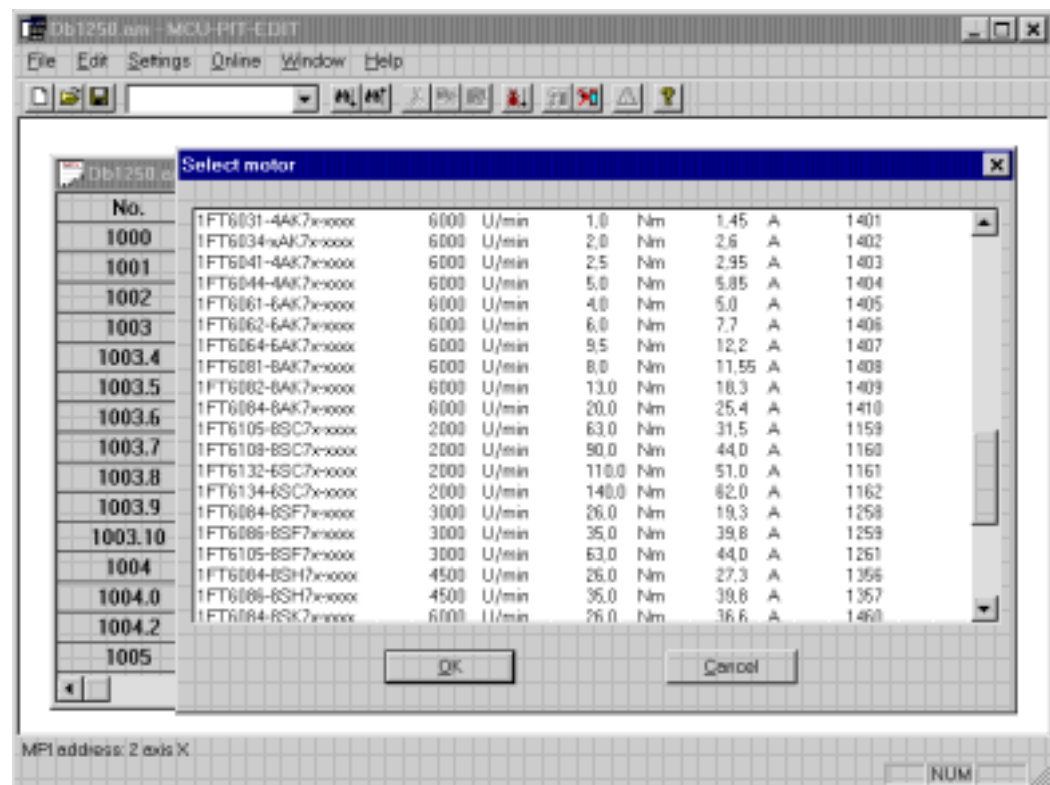

Figure 4-16 Selecting the motor used
3. Select your motor with the function "Motor Selection" (see Figure 4-16).